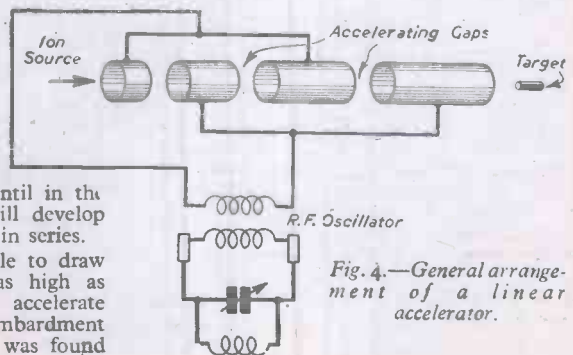

Fig. 4.—General arrangement of a linear accelerator.
The cyclotron was invented by Dr. E. O. Lawrence (2), and for his work in this connection he was awarded the Nobel prize. The principle of the cyclotron came to Lawrence after his great experience with linear accelerators, wherein the particles were accelerated across a number of gaps between a number of metal tubes in series, the alternate tubes being connected to the opposite poles of an oscillatory circuit (Fig. 4).